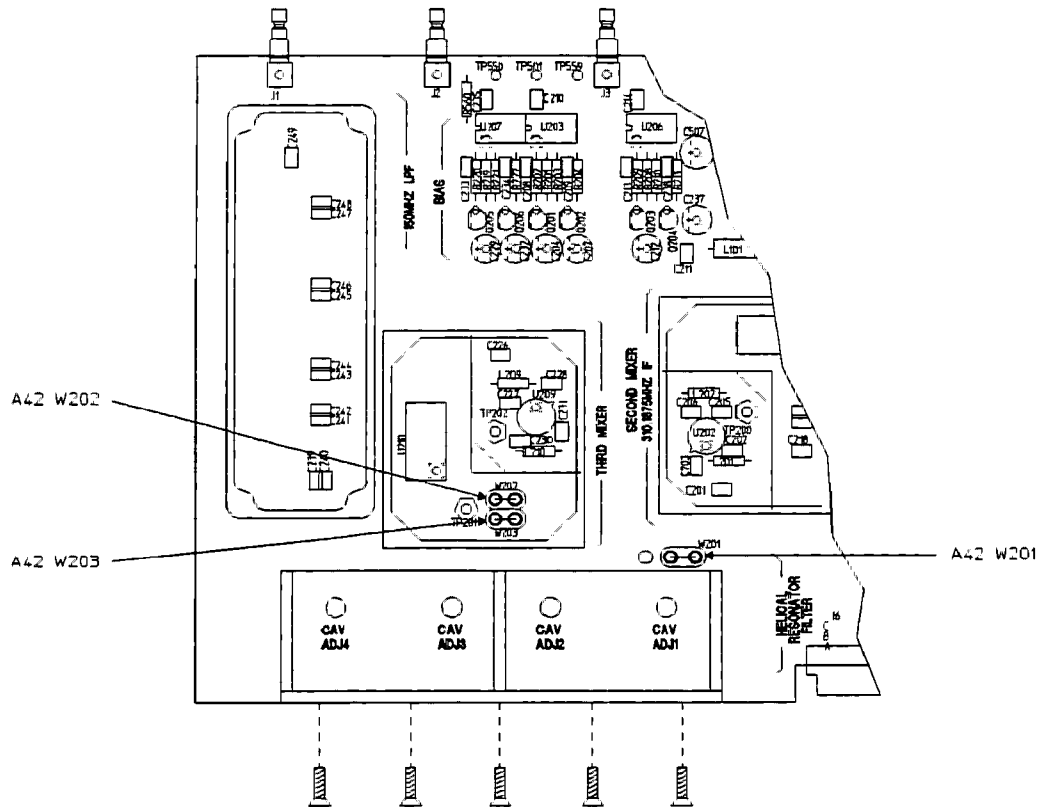

Figure 5-13. A42 Source Conversion Component Locator
2. Remove the shield can covering A42 W202 and W203 (see figure 5-13). Move A42 W201, W202, and W203 to their test positions.